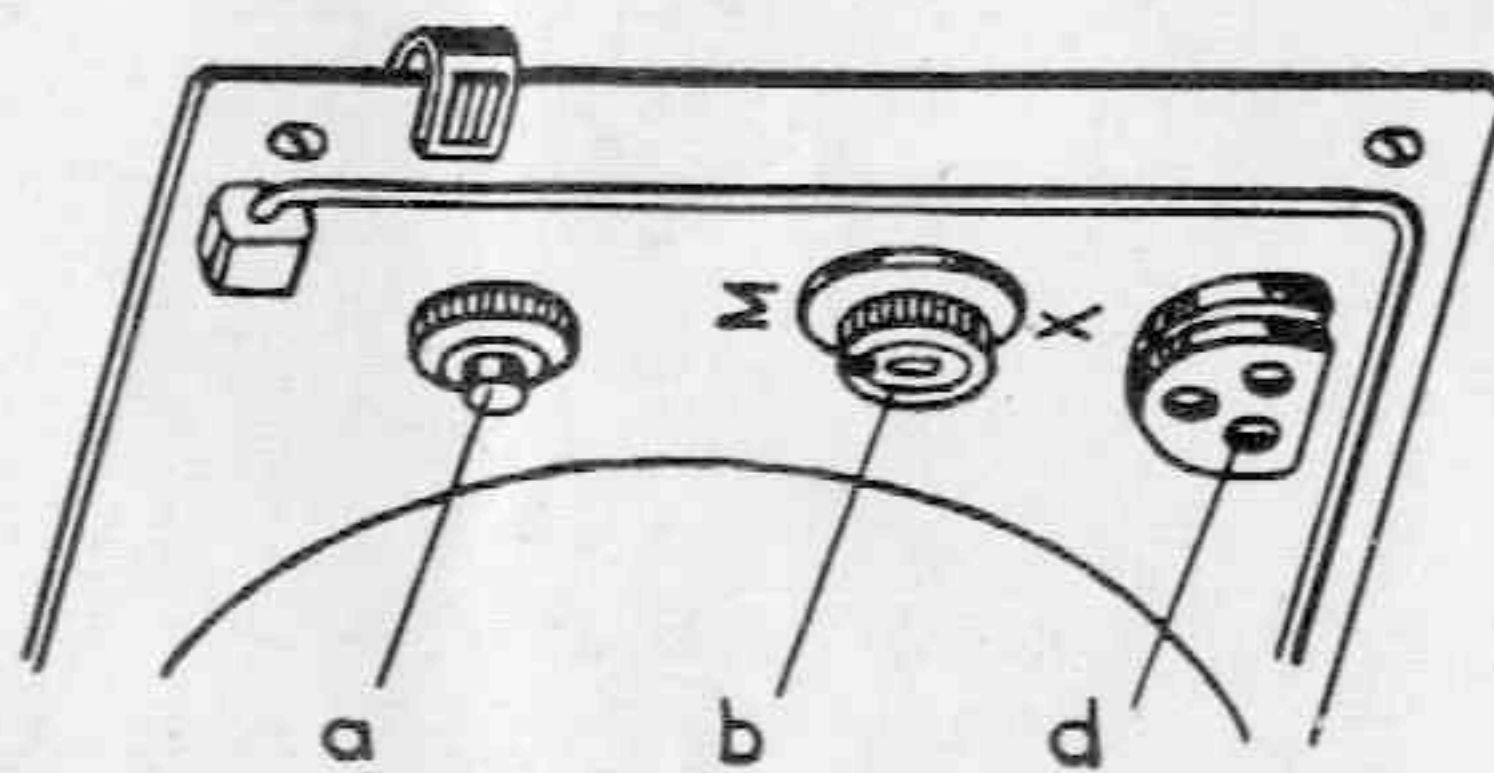

Fig. 2
1. Rotary knob 2 and flashcontacts d on the front plate of the camera (Fig. 2)